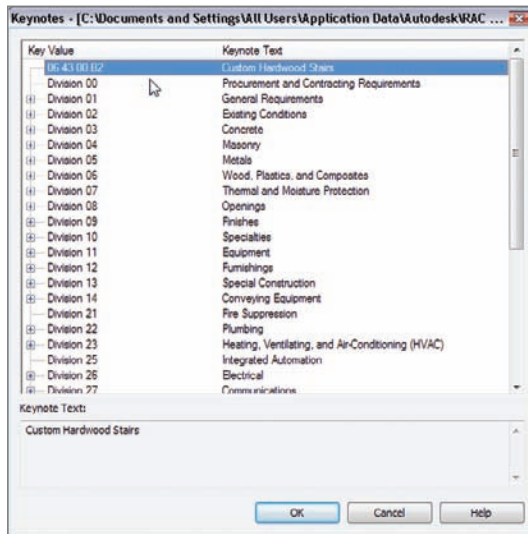

FIGURE 11.101 The new keynote
11. In the Keynotes dialog box, your new keynote will be at the top of the list, as shown in Figure 11.101.